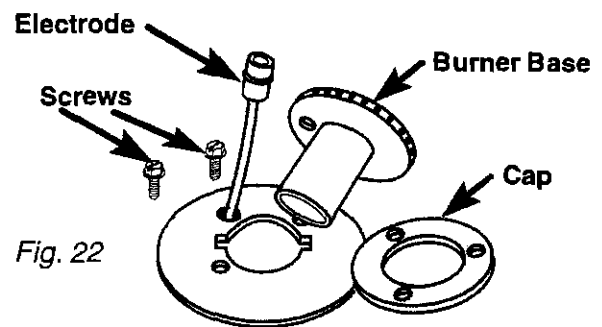

Fig. 22
2. Remove burner grates, caps and screws holding burner bases to the cooktop. Lift burners off cooktop. (Fig. 22)